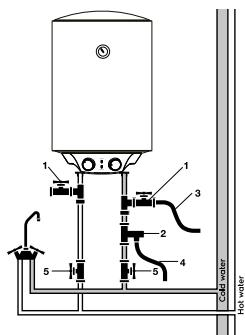

Fig. 5
- The pressure vent on the pressure relief valve (item 3 in Fig. 5) Install a drain tube and lead it to the sewer in case water is drained and excessive pressure is relieved*. The drain tube connected to the pressure outlet must point downward.
A tee can be provided for the drain with a valve between the valve and the sleeve (item 1, fig. 5).
- Connect the drain hose (item 3 in Fig. 5) to the shutoff valve.
The electric water heater must be installed on a solid vertical surface (wall). The V EEC series water heater can only be installed in a heated room. It is advisable to install the heater as close as possible to where the hot water is used, because the shorter the length of the pipes, the less heat is lost. As shown in Fig. 5. When installing the heater close to a wall, leave the recommended clearance for maintenance. Do not install the heater on a horizontal surface and up against the floor. After selecting the mounting location, locate the two fastening bolts with hooks (depending on the specifications of the selected product). Make two holes in the wall to the required depth corresponding to the size of
If you want to implement a water supply system for several water points, use the connection method (see Fig. 5).